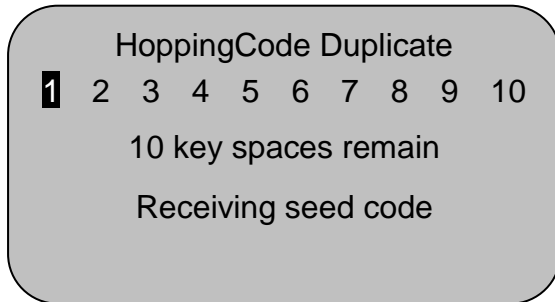

Fig. 13
- b. LCD displays "Receiving seed code".(Fig. 13)